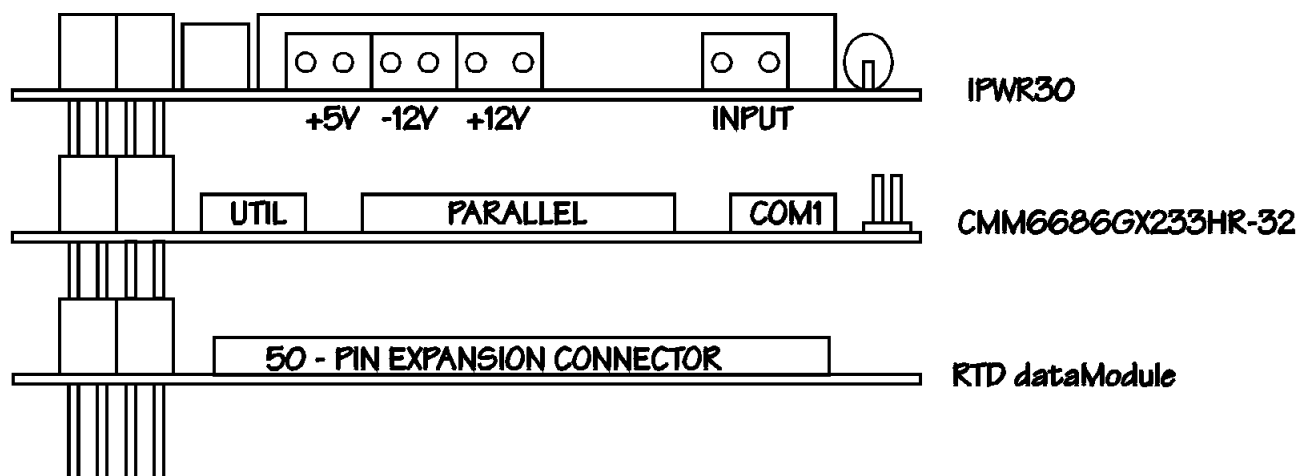

Fig. 2-1: IPWR104HR-35W integrated in a RTD PC/104 cpuModule stack
- Fig. 2-1: IPWR104HR-35W integrated in a PC/104 RTD cpuModule stack**